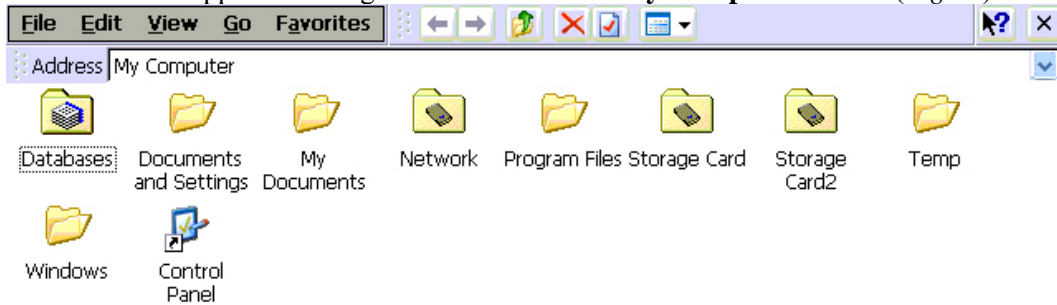

Fig 19
39. A window will appear showing the contents of the “My Computer” folder (Fig 19).